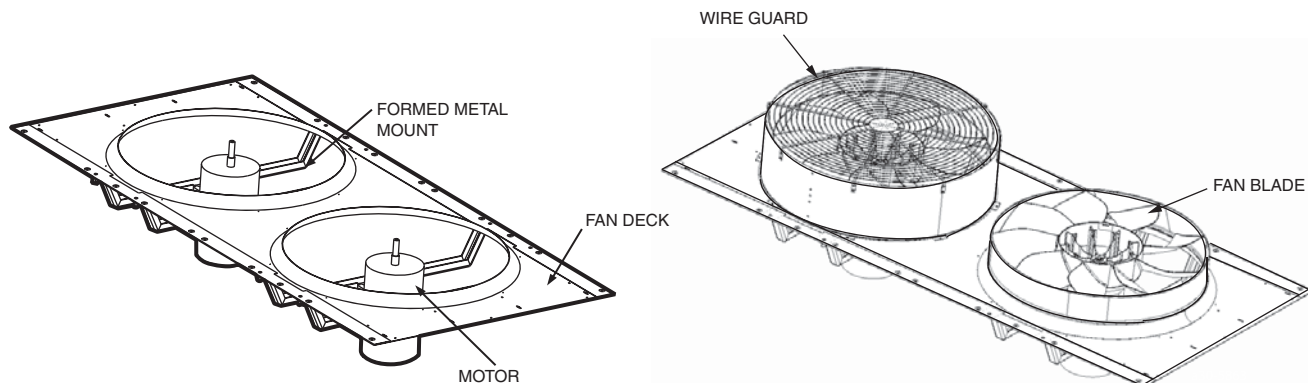

**Fig. 65 — Fan Mounting**
**Condenser Fans** — A formed metal mount bolted to the fan deck supports each fan and motor assembly. A shroud and a wire guard provide protection from the rotating fan. See Fig. 65. To remove the fan a special puller (RCD part no. 30RB680082) is required. The exposed end of the fan motor shaft is protected from weather by grease. If fan motor must be removed for service or replacement, be sure to regrease fan shaft and reinstall fan guard. The fan motor has a step in the motor shaft. For proper performance, fan should be positioned such that it is securely seated on this step. Loctite 680 should be applied to the shaft fan keyways during reassembly. Due to the high-strength nature of this product, it must be used *only in the keyways*. Applying it to the shaft and/or hub bore may result in parts that cannot be disassembled in the future. Tighten the bolt to 24 ft lb  $\pm$  2.0 (32.5 Nm  $\pm$  2.7 Nm).